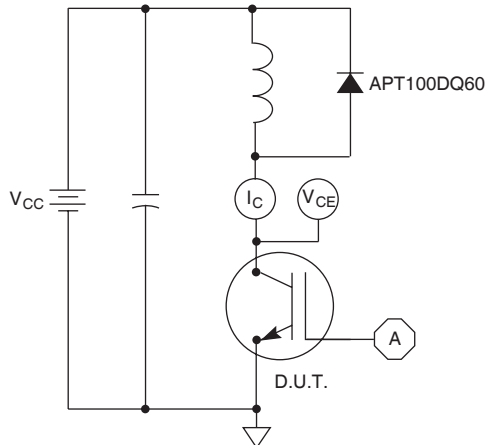

Figure 21, Inductive Switching Test Circuit
- ⑤ Eon2 is the clamped inductive turn-on energy that includes a commutating diode reverse recovery current in the IGBT turn-on switching loss. (See Figures 21, 22)
- ⑥ Eoff is the clamped inductive turn-off energy measured in accordance with JEDEC standard JESD24-1. (See Figures 21, 23)
- ⑦ RG is external gate resistance, not including RGint nor gate driver impedance. (MIC4452)